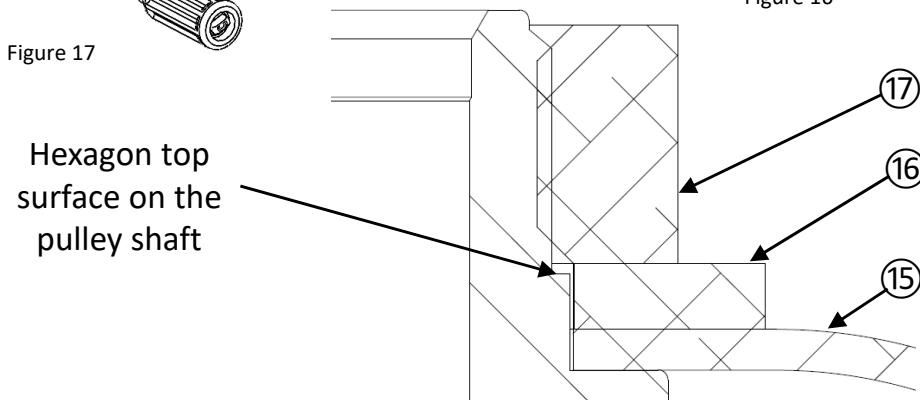

Figure 18
Make sure the alignment of the hexagon shapes of the cap (15) and washer (16) are fully engaged on the shaft hexagon shape before applying torque to the nut (17) (see figure 18).